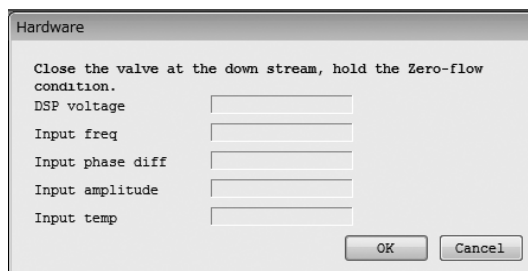

Fig.102
- ① Click the "Diag/Service (T)" menu, select "Self Diag" from the "Test/Status" drop-down list, and then click "Hardware" under that.
- ② The following window will be displayed (Fig. 102). This will check the hardware. Click "OK" after completely stopping the fluid.